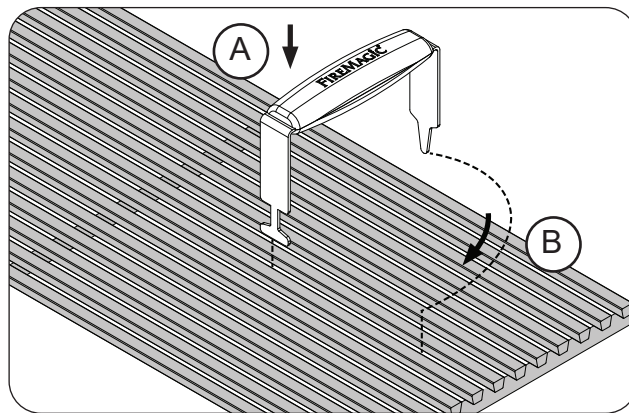
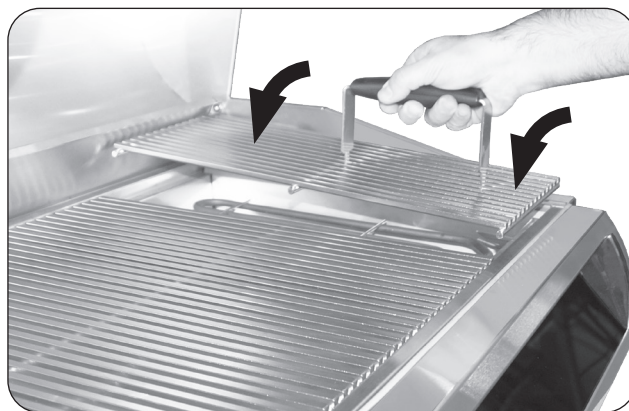

Fig. 26-1 Install cooking grids
Fig. 26-2 Install cooking grids
1. With the prongs facing downward, insert the notched-end of the lifter between two grid rods, then rotate, as shown in Fig. 26-1, A & B.
2. Insert the rear pointed-end of the lifter between the same two rods (Fig. 26-1, B) and carefully lift the cooking grid and place onto the front and rear grid rests of the grill (see Fig. 26-2). Repeat for all other cooking grids.